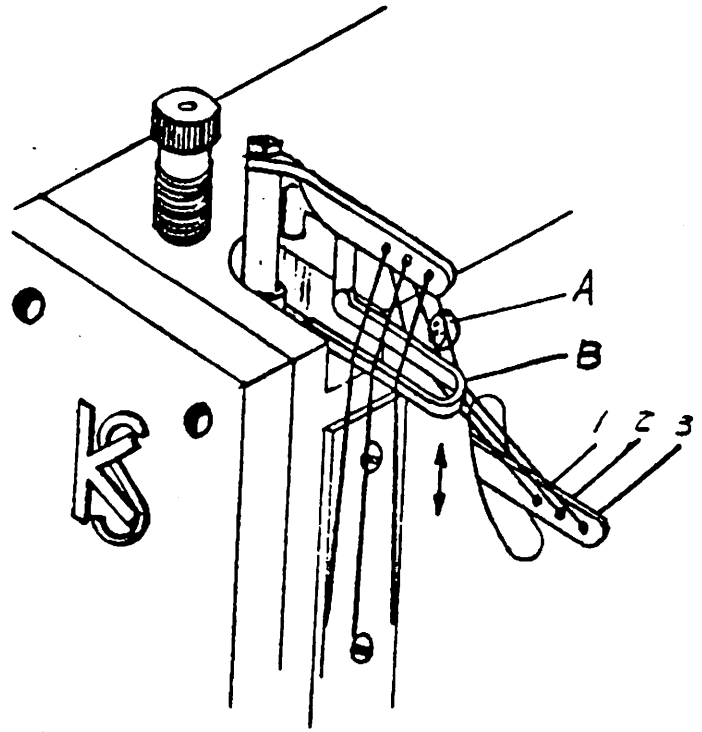

Fig 17
1. Loosen the needle thread take-up screw A in Fig. 17.
2. According to the kind of threads, please adjust correctly by moving the needle thread take-up B in Fig. 17 to up or down, and is decided correctly, tighten the needle thread take-up screw A in Fig. 17.